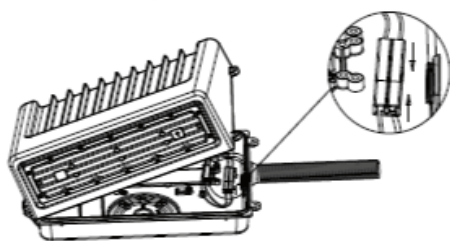

Fig. 2-4A
4. Re-attach the front cover of the fixture and re-connect the quick connect connector (Fig. 2-4A). Make sure the door gasket is properly seated around the perimeter. Close front cover and secure by tightening the two screws loosen on step 1. (Fig 2-4B). Installation is complete. Turn power on.